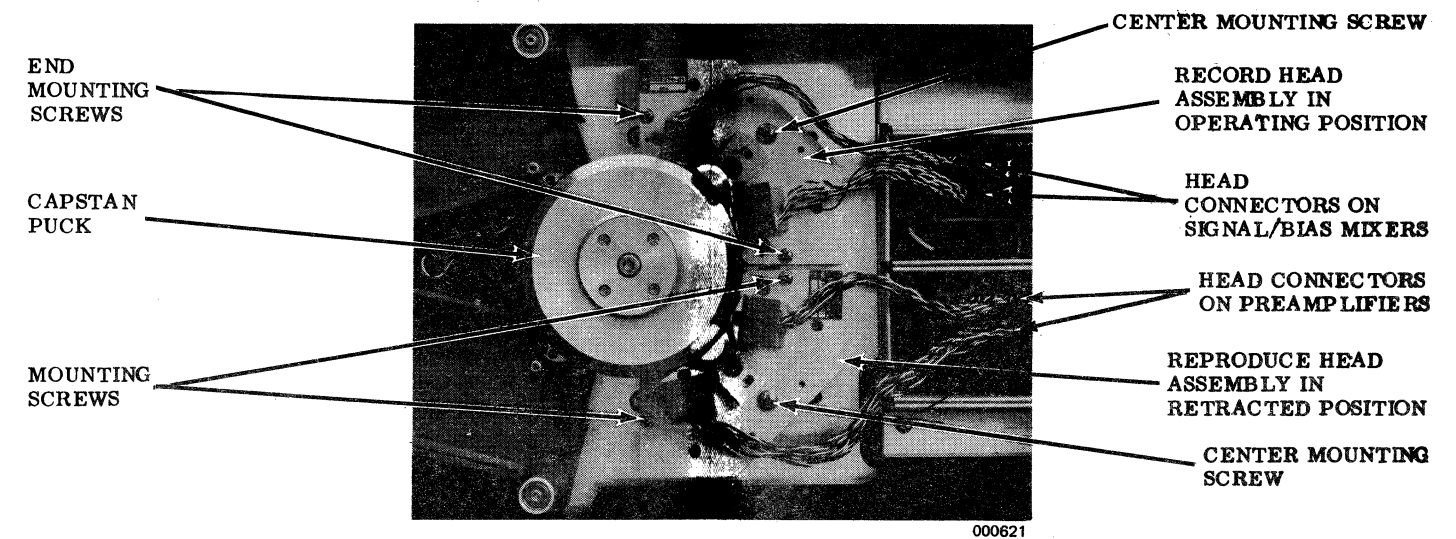

Figure 11-4. Typical FR-3020 Head Assemblies
- c. Unscrew the two captive end mounting screws (Figure 11-4) of the head assembly.
FR-3020 AND FR-3030 HEAD ASSEMBLIES (Figure 11-4)